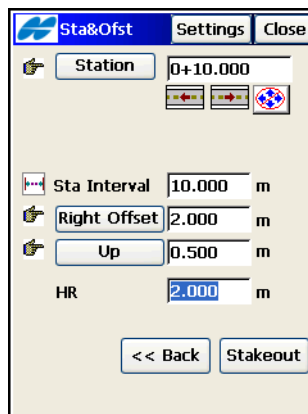

Figure 9-36. Station and Offset
3. In the Stakeout *Sta&Ofst* screen (Figure 9-36), set the station along the spiral being staked, the station staking interval, the left or right offset of the stakeout point with respect to the spiral, the Up or Down Height offset, the height and the type of the antenna height (GPS mode), or the height of the rod (target) (TS mode).